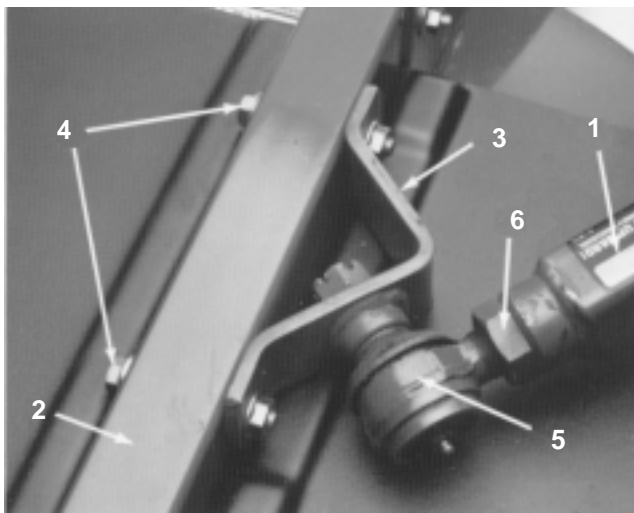

Figure 19
5. Have another person push down on the right push arm while you remove the capscrews, flat washers, and locknuts securing the ball joint mount to the castor arm on the cutting unit (Fig. 19). Now the helper can carefully allow the push arm to move upward, which will gradually release the 100 pounds (45 kg) of spring load.
3. Have another person carefully push down on the right push arm until the holes in the ball joint mount line up with the holes in the castor arm (Fig. 19).